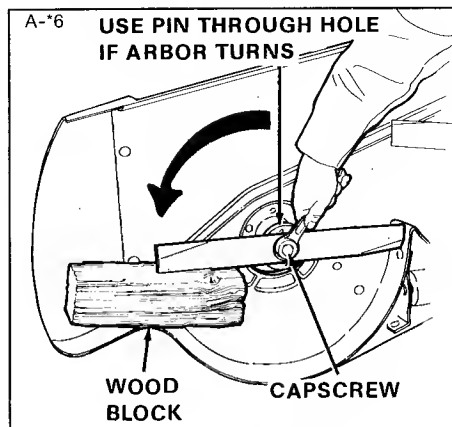

Figure 18. Removing Blade
2. Position the mower as in figure 18. Secure the mower so it will not fall or slide.
4. To remove the blade for sharpening use a wooden block to hold blade while removing the capscrew (figure 18).